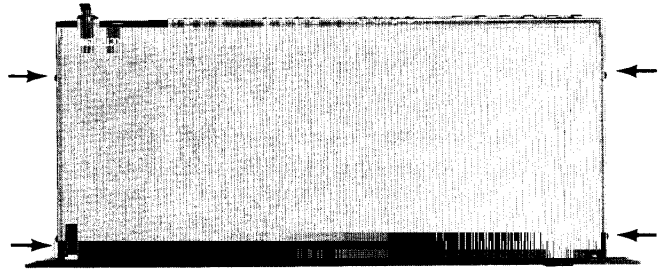

Figure 3 — Remove These Screws to Lift Off the Bottom Cover
1. Place the 5234A upside down on a soft surface, remove the two Phillips-head screws from either side of the case, and lift the bottom cover from the chassis (Figure 3).
- a) Remove the bottom cover by removing the two small Phillips head screws on each side of the case, (Figure 3) and change the line cord to one whose attachment plug matches the power receptacle. Secure the new cord to the chassis with a feed through cable clamp. Also,